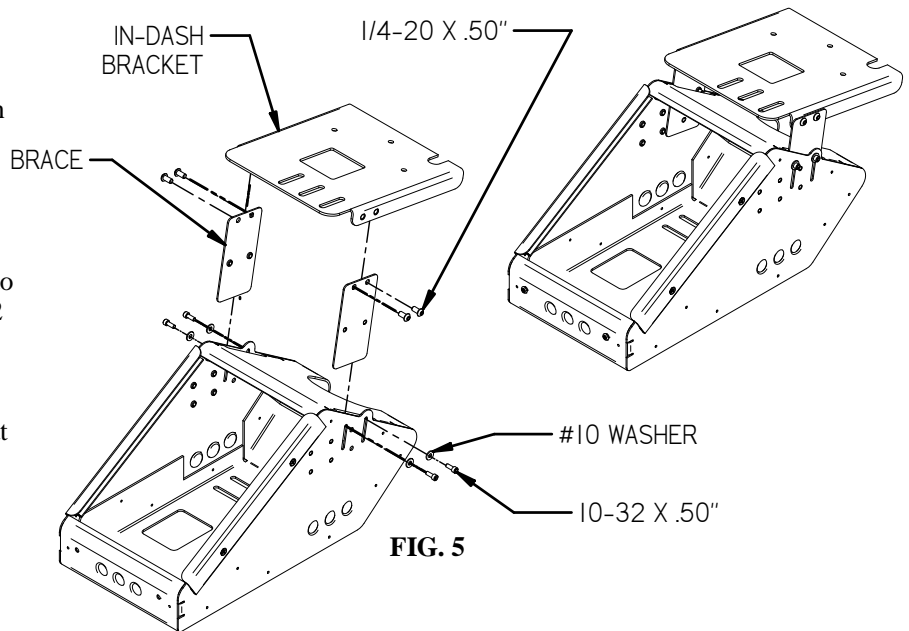

FIG. 5
1. If mounting the MCS-VERTBOX12 in a Ford Crown Victoria, the box can also attach to the In-Dash Bracket for further stability, using NP-DASH-KT (see FIG. 5).
2. After the In-Dash Bracket is attached to the vehicle, align the MCS-ERGOBOX12 and fasten to the In-Dash Bracket using two braces, four 1/4-20 x .50" Socket Button Head screws, four 10-32 x .50" Socket Head Cap Screws and four #10 flat washers all found in NP-DASH-KT. Assemble as illustrated in FIG. 5.